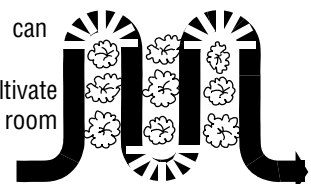

Fig. 4-9
- When cultivating (breaking up surface soil around plants to destroy weeds, see Fig. 4-9), adjust the tines to dig only 1" to 2" deep. Using shallow tilling depths helps prevent injury to plants whose roots often grow close to the surface. If needed, lift up on the handlebars slightly to prevent the tines from digging too deeply. (Cultivating on a regular basis not only eliminates weeds, it also loosens and aerates the soil for better moisture absorption and faster plant growth.) Watering the garden area a few days prior to tilling will make tilling easier, as will letting the newly worked soil set for a day or two before making a final, deep tilling pass.
With planning, you can allow enough room between rows to cultivate (see Fig. 4-9). Leave room for the hood width, plus enough extra room for future plant growth.